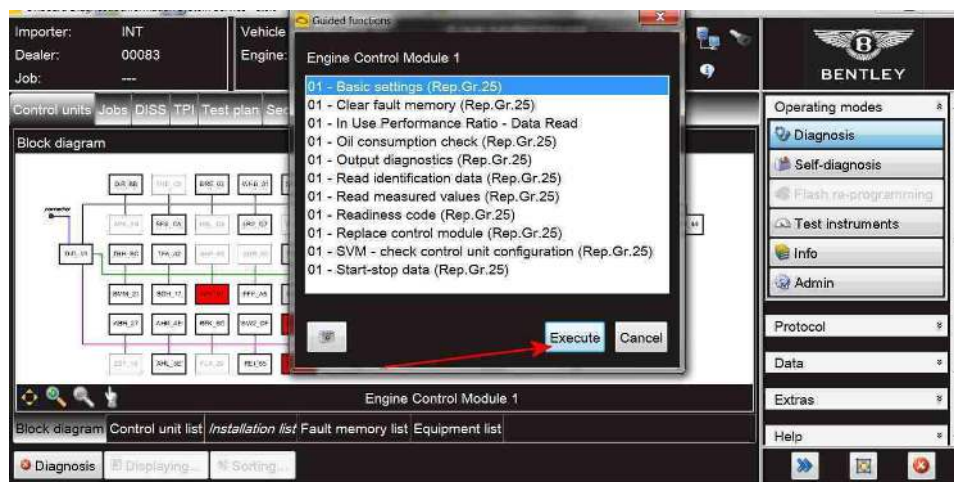

Figure 2
- Referring to Figure 2 - Navigate to Engine control module 1